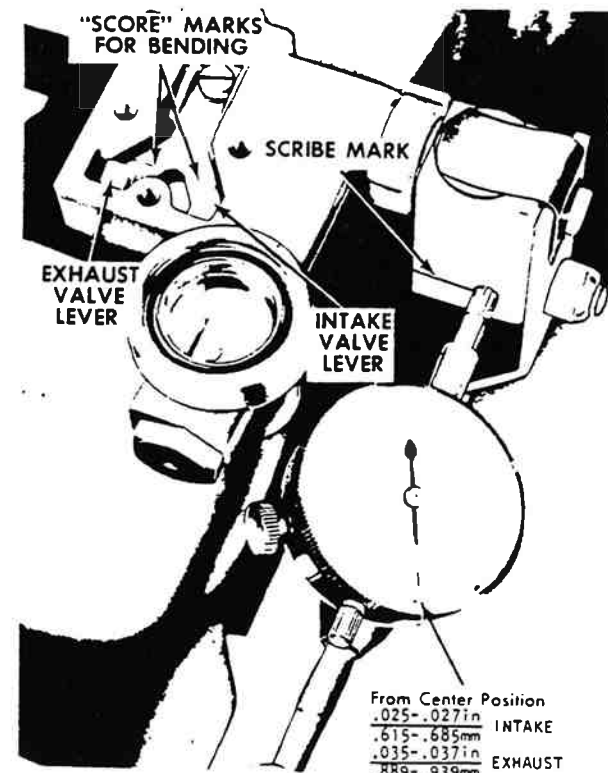

Figure 12-11. Adjusting Air Intake Valve Lever Gap.
- Starting at center position, slowly move lever to where air intake valve just begins to open. Listen for escaping air. Note reading on dial at this point. Reading should be 0.025-0.027" (0.635-0.685 mm) from lever center position. If necessary bend intake valve lever to correct setting, refer to figure 12-11.
- Return overtravel lever to center position. Slowly move lever to exhaust side and at the same time note the vacuum gauge reading. When vacuum just begins to fall, the exhaust valve has opened. Valve should open when overtravel lever is moved 0.035" to 0.037" (0.889-0.940 mm) from center position. If necessary, bend exhaust valve lever to correct setting; refer to Figure 12-11.
- To adjust air intake valve lever gap, move the overtravel lever slowly from center position to point where intake valve just begins to open. Listen for escaping air: Note reading on dial at this point which should register 0.025-0.027" (0.635-0.685 mm). If necessary, bend intake valve lever to correct setting. Refer to Figure 12-11.